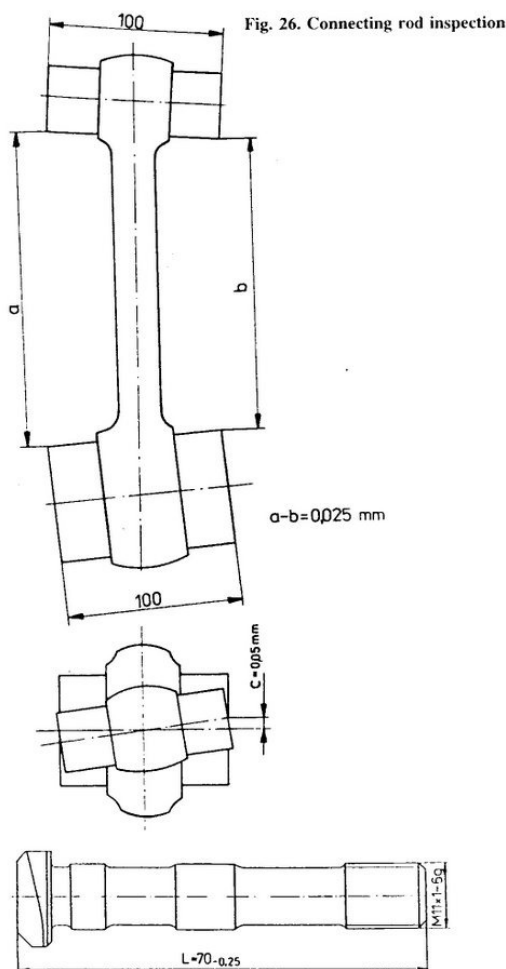

Fig. 27. Connecting rod bolt
- Measure and note the real length  $L$  of both bolts (Fig. 27). It should be within limits 69.75... 70.00 mm;